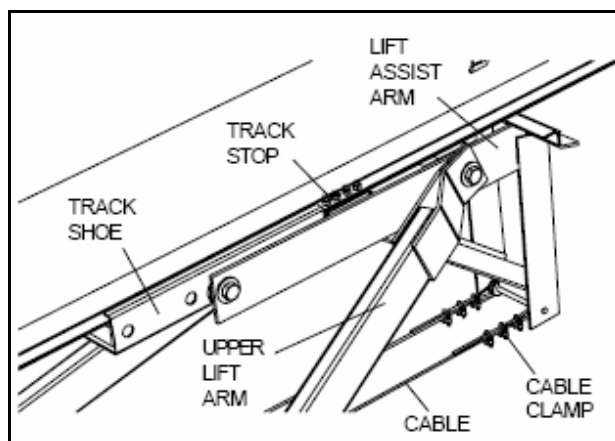

**Figure 3.24 MK130 Plus 81'**
4. Insert the ram ends into brackets on ram guide (Figure 3.24). Secure with two roll pins.
- Position both elbow fittings on **right lift cylinder**. The **lower** one should face forward and downward at approximately 45°. The **upper** one should face rearward and downward at approximately 45° (Figure 3.24). Make certain they are tight.
5. Secure the tee fittings to the left cylinder elbow fittings and position them as shown in Figure 3.24. Make certain they are securely tightened.
7. Check upper 32" cylinder-connector hose position to ensure there is 8-1/2" of clearance to lift cables as shown in Figure 3.24.
10. Thread hoses through back arm attach bracket (Figure 3.24).